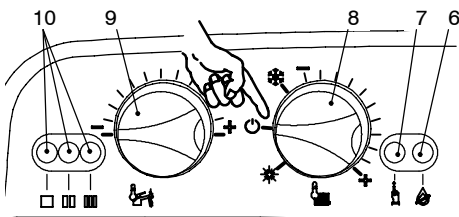

Fig. 8.5
- 8 Turn the boiler OFF positioning the function selector 8 as indicated in Fig. 8.5.